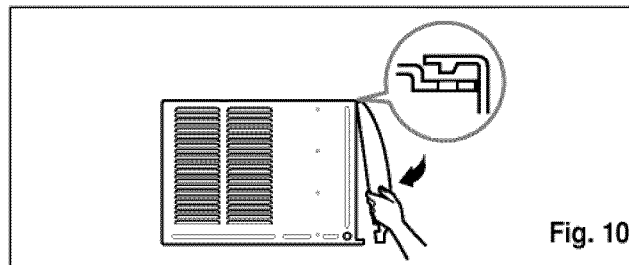

Fig. 10
13. Attach the front grille to the cabinet by inserting the tabs on the grille into the tabs on the front of the cabinet. Push the grille in until it snaps into place. (Fig.10)
13. Attach the front grille to the cabinet by inserting the tabs on the grille into the tabs on the front of the cabinet. Push the grille in until it snaps into place. (See Fig. 10)